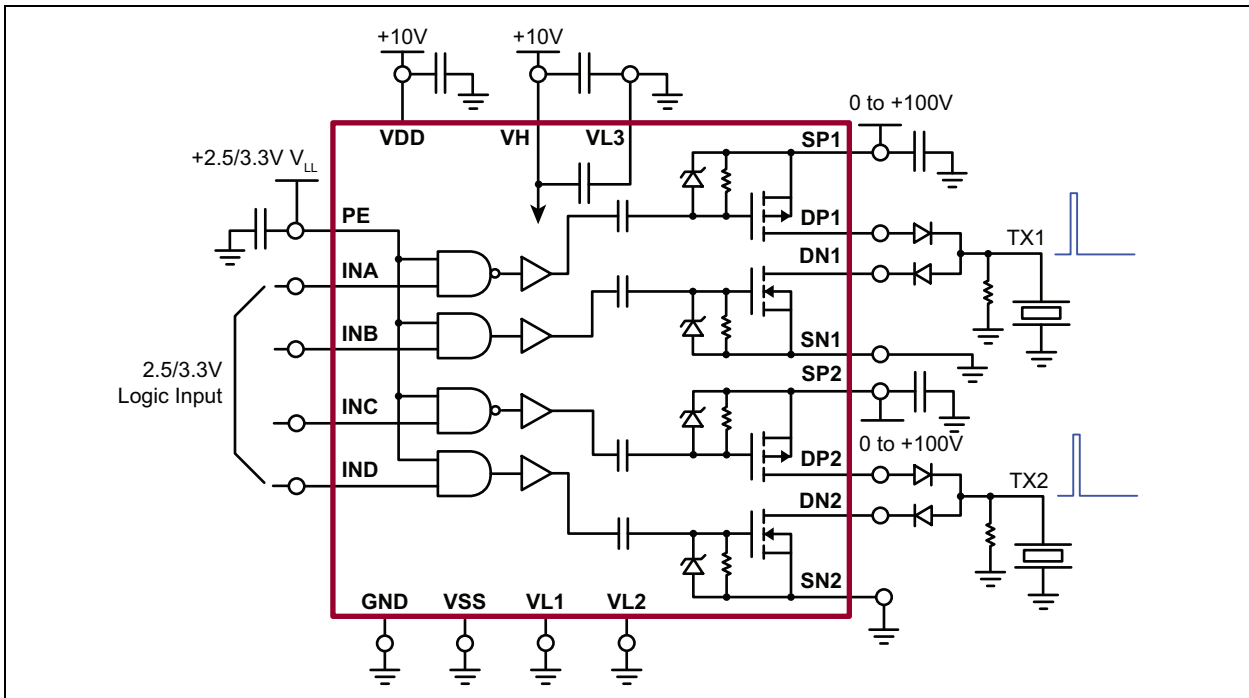

FIGURE 3-4: Typical Unipolar Two-channel Two-level Ultrasound Transmitter Application Circuit for HV7360/HV7361.
- Removed the INC to IND connection line and changed the typical high voltage supply from +200V to +100V in Figure 3-4